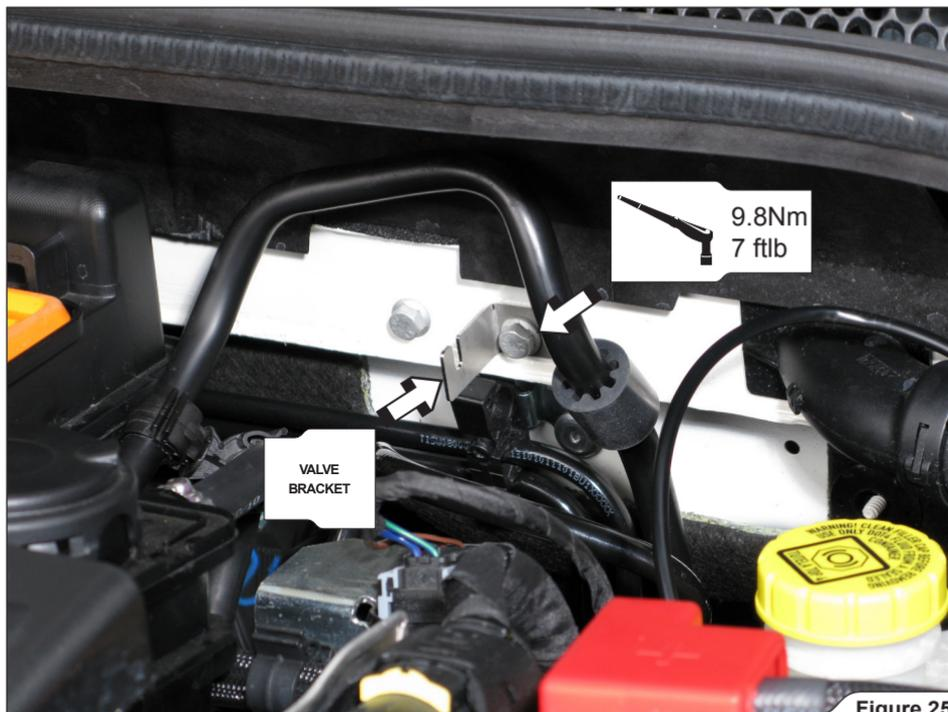

Figure 25
20. **For optional wireless kit only:** screw the electromagnetic valve's bracket onto the chassis, using marked original bolt (Figure 25).